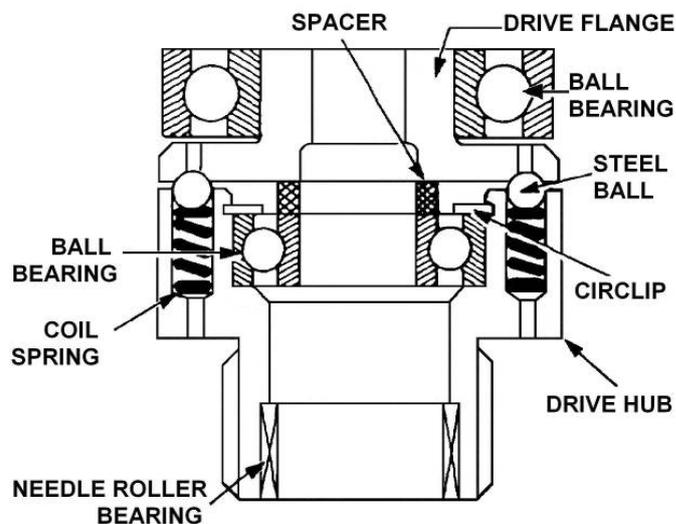

Figure 221 Removal of the Torque Limiter
- g. Slide off the sliding clutch, clamp the shaft in the vice and remove the locknut and flat washer securing the torque limiter to the shaft. Support the torque limiter on the jaws of the vice and carefully tap the shaft through the drive flange (Figure 221). Lift off the drive flange complete with the bearing, taking care not to lose the steel balls. Remove the spacer.